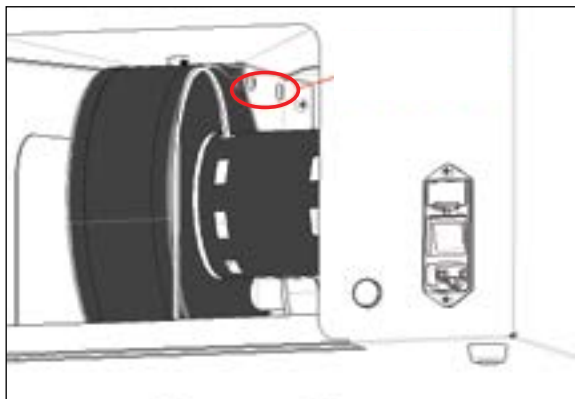

Fig.1
- Simultaneously pull both ball tray release knobs outward as shown in Fig. 1 and indicated by Arrow '1'.
- While holding the ball tray release knobs out, push the knobs downward, allowing them to follow a semi-circular path as shown in Fig. 1 and indicated by Arrow '2'.
2. Remove the four screws holding the blower to the base pan. (See Fig. 1 & Fig. 2, page 9)